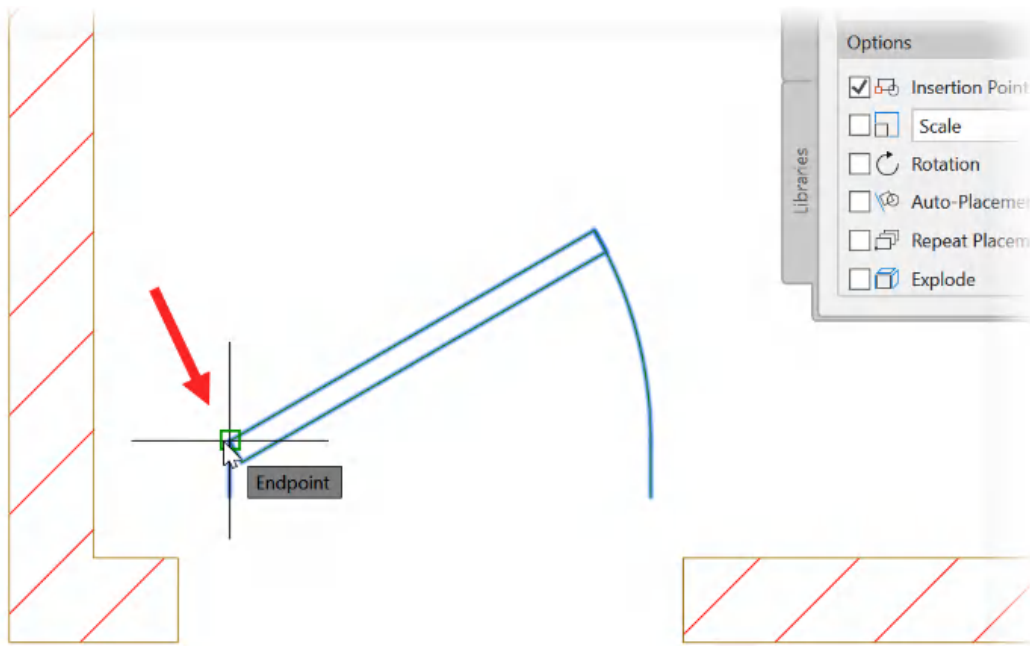

Figure 9.11: The Endpoint object snap used to move the dynamic door block
4. A simple tactic here is to place the **Door – Metric** block away from the door opening and then use the **Move** (MOVE) command to move it after placement, utilizing object snaps to place the door block on the corner of the wall opening (using the **Endpoint** object snap). Use the **Endpoint** object snap shown in Figure 9.11 as the basepoint to place the dynamic block on the wall corner.